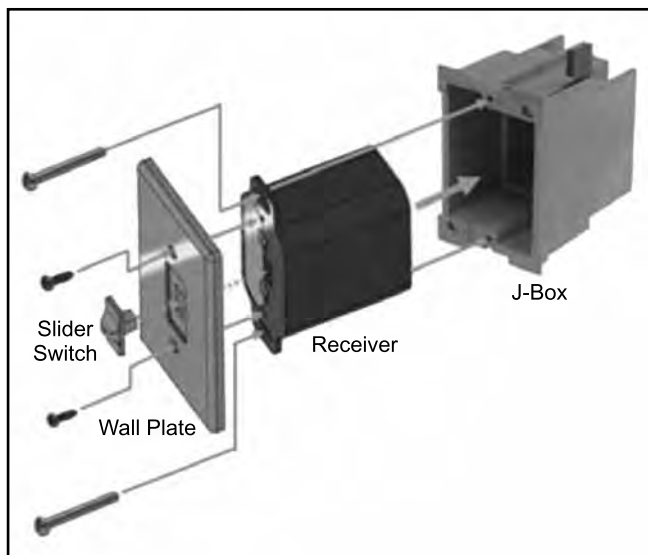

Figure 109: Wall Mounting the Receiver.
2. Install the Receiver in the Junction box using the existing J box screws (Figure 109).
3. Insert the four (4) AA type batteries in the battery compartment with the correct polarity.
9. Using the two (2) screws provided secure the cover plate to the Receiver.